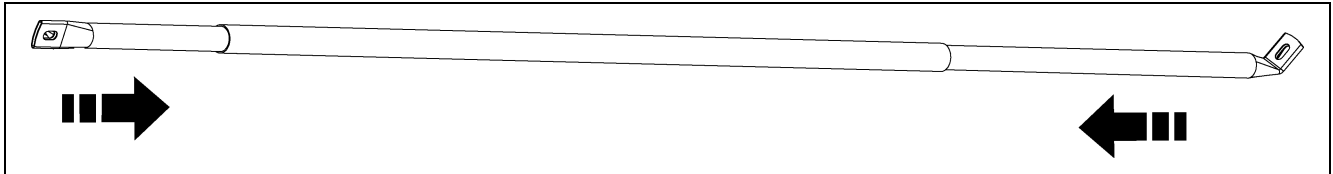
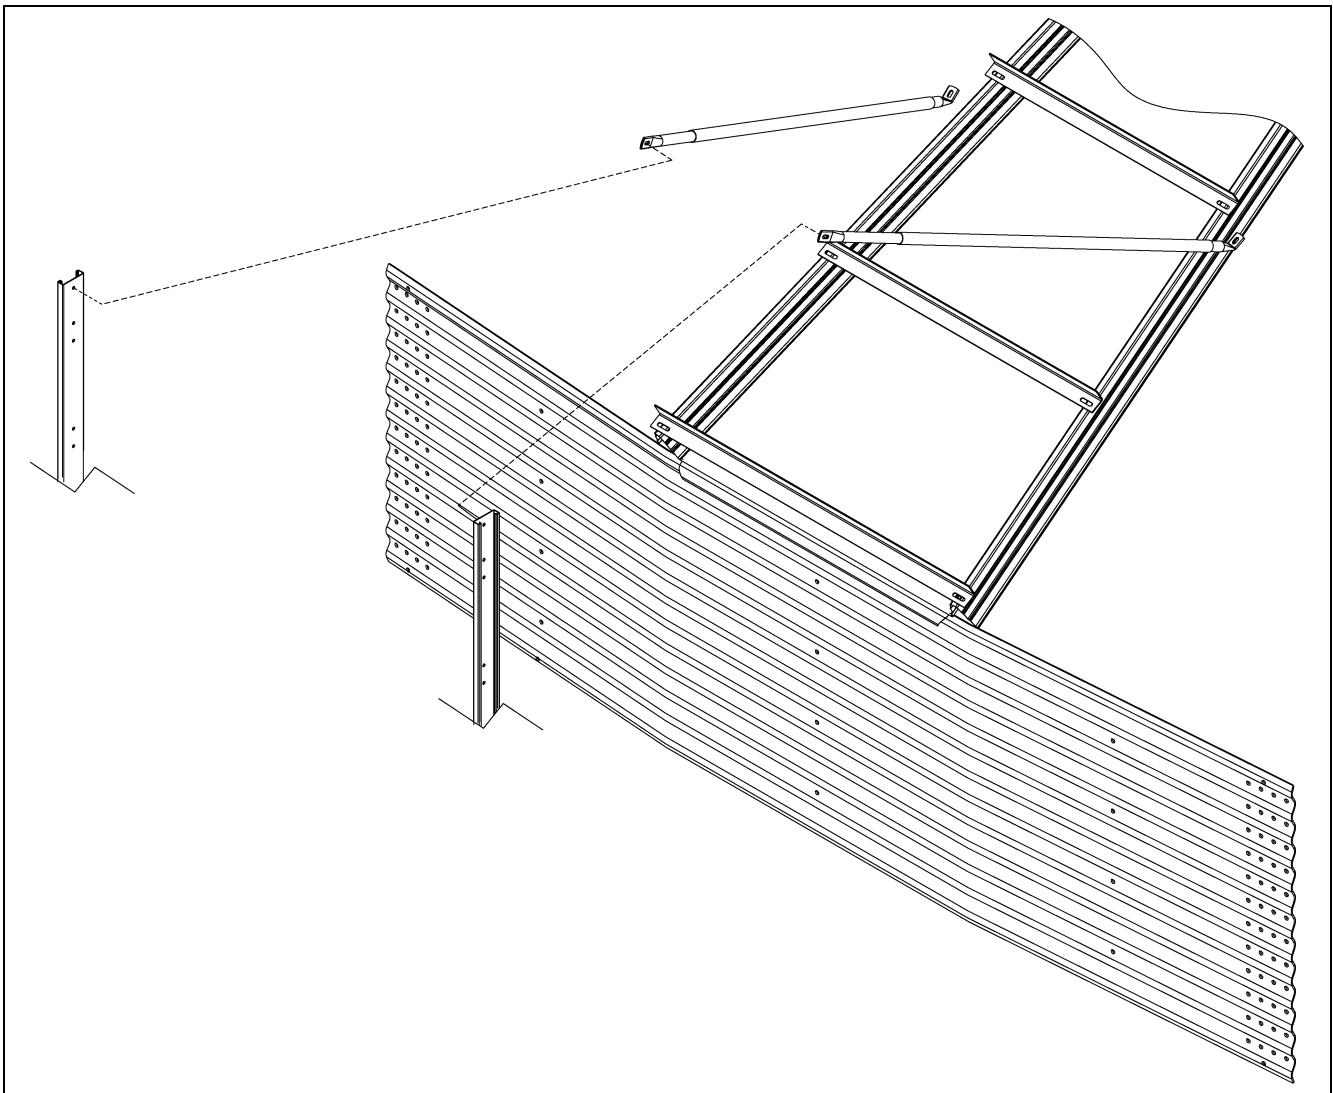

Figure 5F
Figure 5G
The eave adjustable braces must be attached at this time. An eave adjustable brace is comprised of one (1) large diameter tube and two (2) smaller diameter tubes. (See Figure 5F.) Slide the smaller tubes inside the larger tubes and attach one (1) smaller tube to the top of the ladder extension rail. Adjust the other smaller tube so the bottom of the flattened tube reaches the roof panel. Field drill four (4) 5/16" holes through both large and small tubes and bolt together using 1/4" x 1-1/2" bolts and nuts. This will prevent the adjustable braces from slipping. (See Figure 5G.)